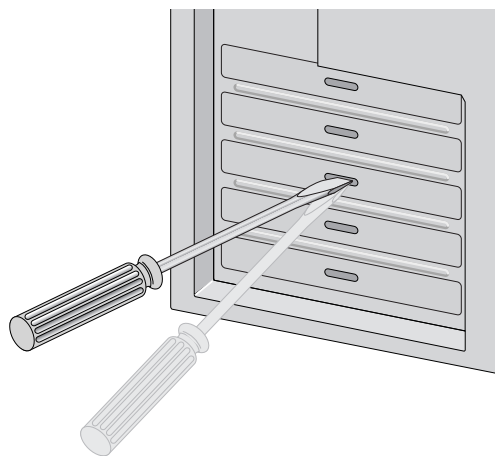

Figure 2 Removing the Faceplate From PCI Slot
3. Select an empty, non-shared PCI slot and remove the faceplate. Keep the faceplate in a safe place. You may need it for future use. See Figure 2.